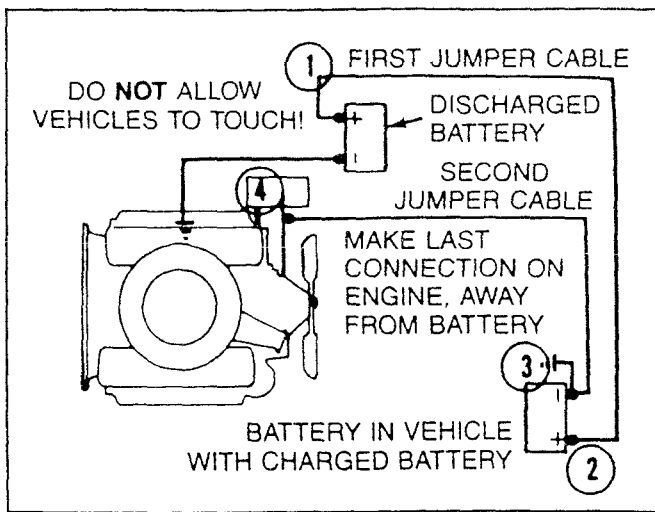

Figure 7-26 — Jump Starting Connections
4. Attach the end of one jumper cable to the positive terminal of the booster battery and the other end of the same cable to the positive terminal of the discharged battery (Figure 7-26). Do not permit vehicles to touch each other as this could cause a ground connection and counteract the benefits of this procedure.